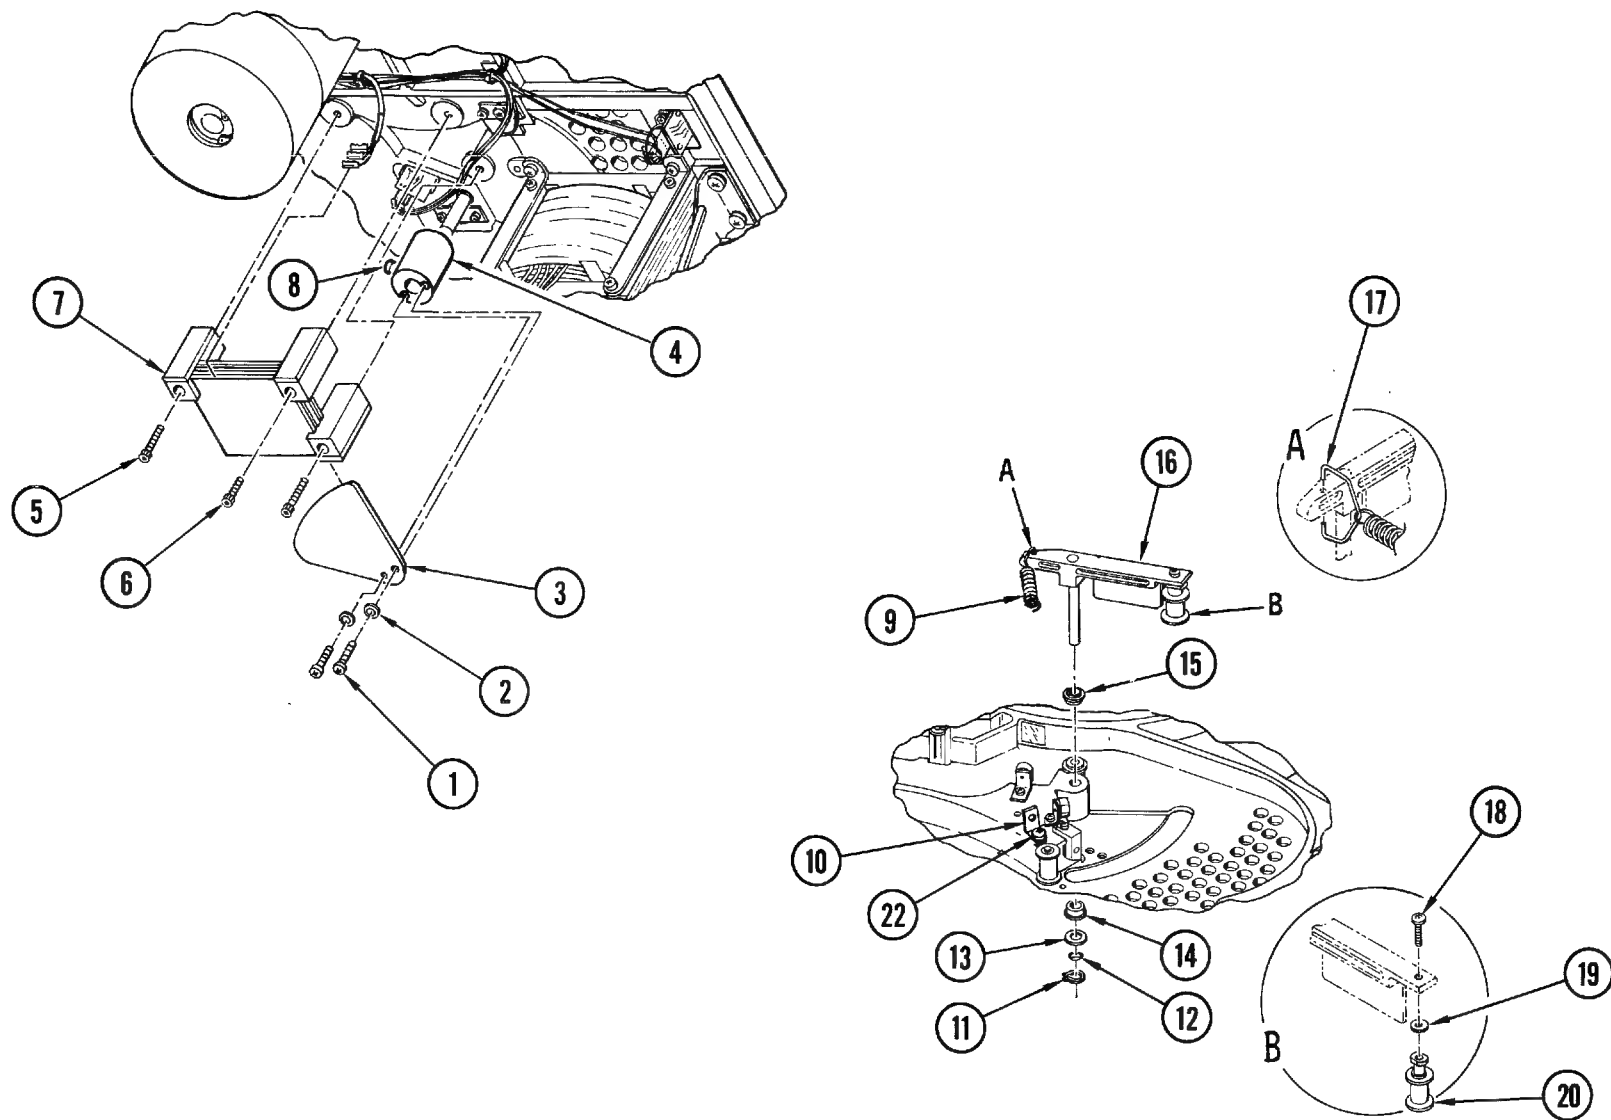

Figure 4-17. Compliance Arm and Air Capacitor Assemblies
**4-30. Removal and Disassembly (Figure 4-17).** Place the transport in service access position in accordance with instructions in paragraph 4-3. Proceed as follows:
- a. Replace defective parts and reassemble compliance arm assembly as shown in Figure 4-17, in reverse order of steps g through i, paragraph 4-30, observing the following special instructions.
- (1) Use attaching parts and shims saved from removal and disassembly as necessary.
- (2) Apply Lubriplate to bearing surfaces between clip (17) and arm (16).
- b. If bearing (14) or (15) was removed, apply small amount of Loctite 601 around outside of bearing and replace.
- d. Install shim (13), wavespring washer (12), and retaining ring (11) on bottom of shaft. Check wavespring washer (12) to see that it is compressed half of its height. If not, add shims (13) as necessary, checking compliance arm for freedom of movement.
- e. Slip hub (4) of capacitor shutter over end of compliance arm shaft, tightening socket head screw (8) just enough to hold hub on shaft.
- f. Mount air capacitor stator (7) to under side of top plate with one screw (1/2 - inch) (6), and two screws (5/8-inch) (5), applying Loctite 242 to screws before insertion.
- g. Slip blade (3) of capacitor shutter between two upper plates of capacitor stator (7), and attach to hub (loosen hub if required) with two screws (1), and flatwashers (2).
- i. Loosen hub socket head screw (8) slightly, rotate capacitor shutter blade (3) to within 0.1 inch of power supply housing, and adjust height of hub so that rotor blade does not bind on either plate of capacitor stator (7).